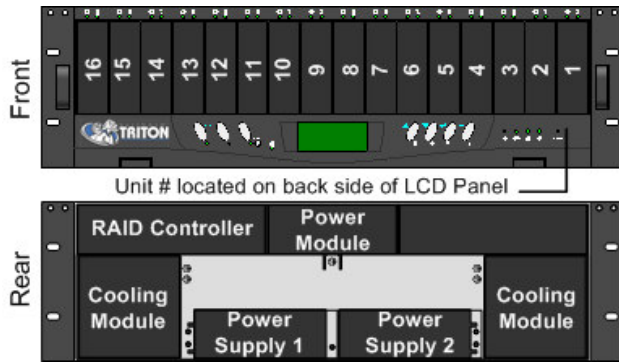

Figure 3—Module Locations and Drive Bays
The SurfRAID TRITON 16FA4 Storage System supports up to sixteen (16) SATA disk drives per enclosure. Refer to Figure 3 for slot locations.
Important: If your SurfRAID TRITON Storage System was Pre-Configured the disk drives will be labeled with a slot number and unit number. The disks must go in the correct unit and in their correct slots. See Figure 3. and Pre-Configuration paperwork that shipped with your RAID system.
Before powering on the SurfRAID TRITON 16FA4 system, please ensure that all modules are firmly seated in their correct bays (See Figure 3)